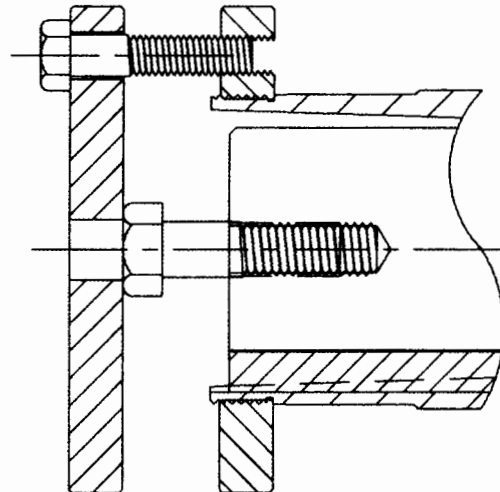

FIGURE 8-1
8.2.4 Install the three capscrews through the keeper plate and into the bushing ring as shown on Figure 8-1.